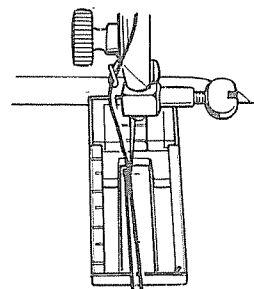

Fig. 3
7. Sew a few stitches while holding the threads at the front side (Fig. 3).